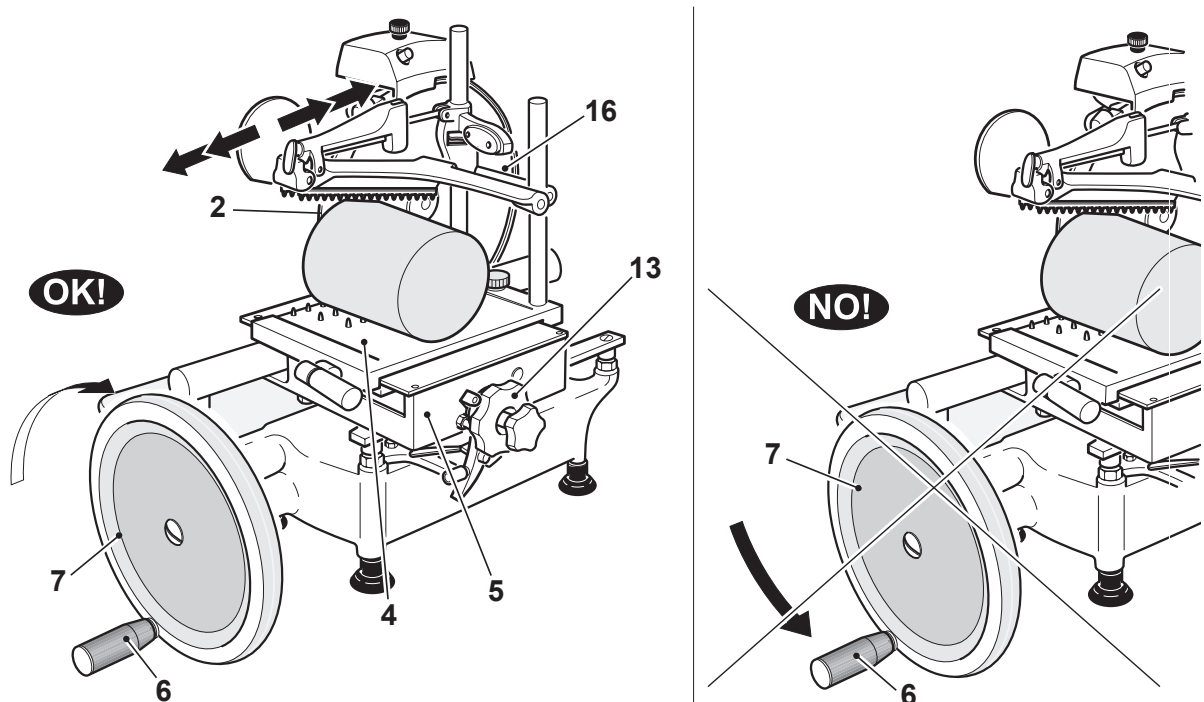

Figure 11-1
4. Hold the handle (6) to turn the flywheel (7) clockwise in order to begin knife (16) rotation and movement of the product holder (4) (Figure 11-1).